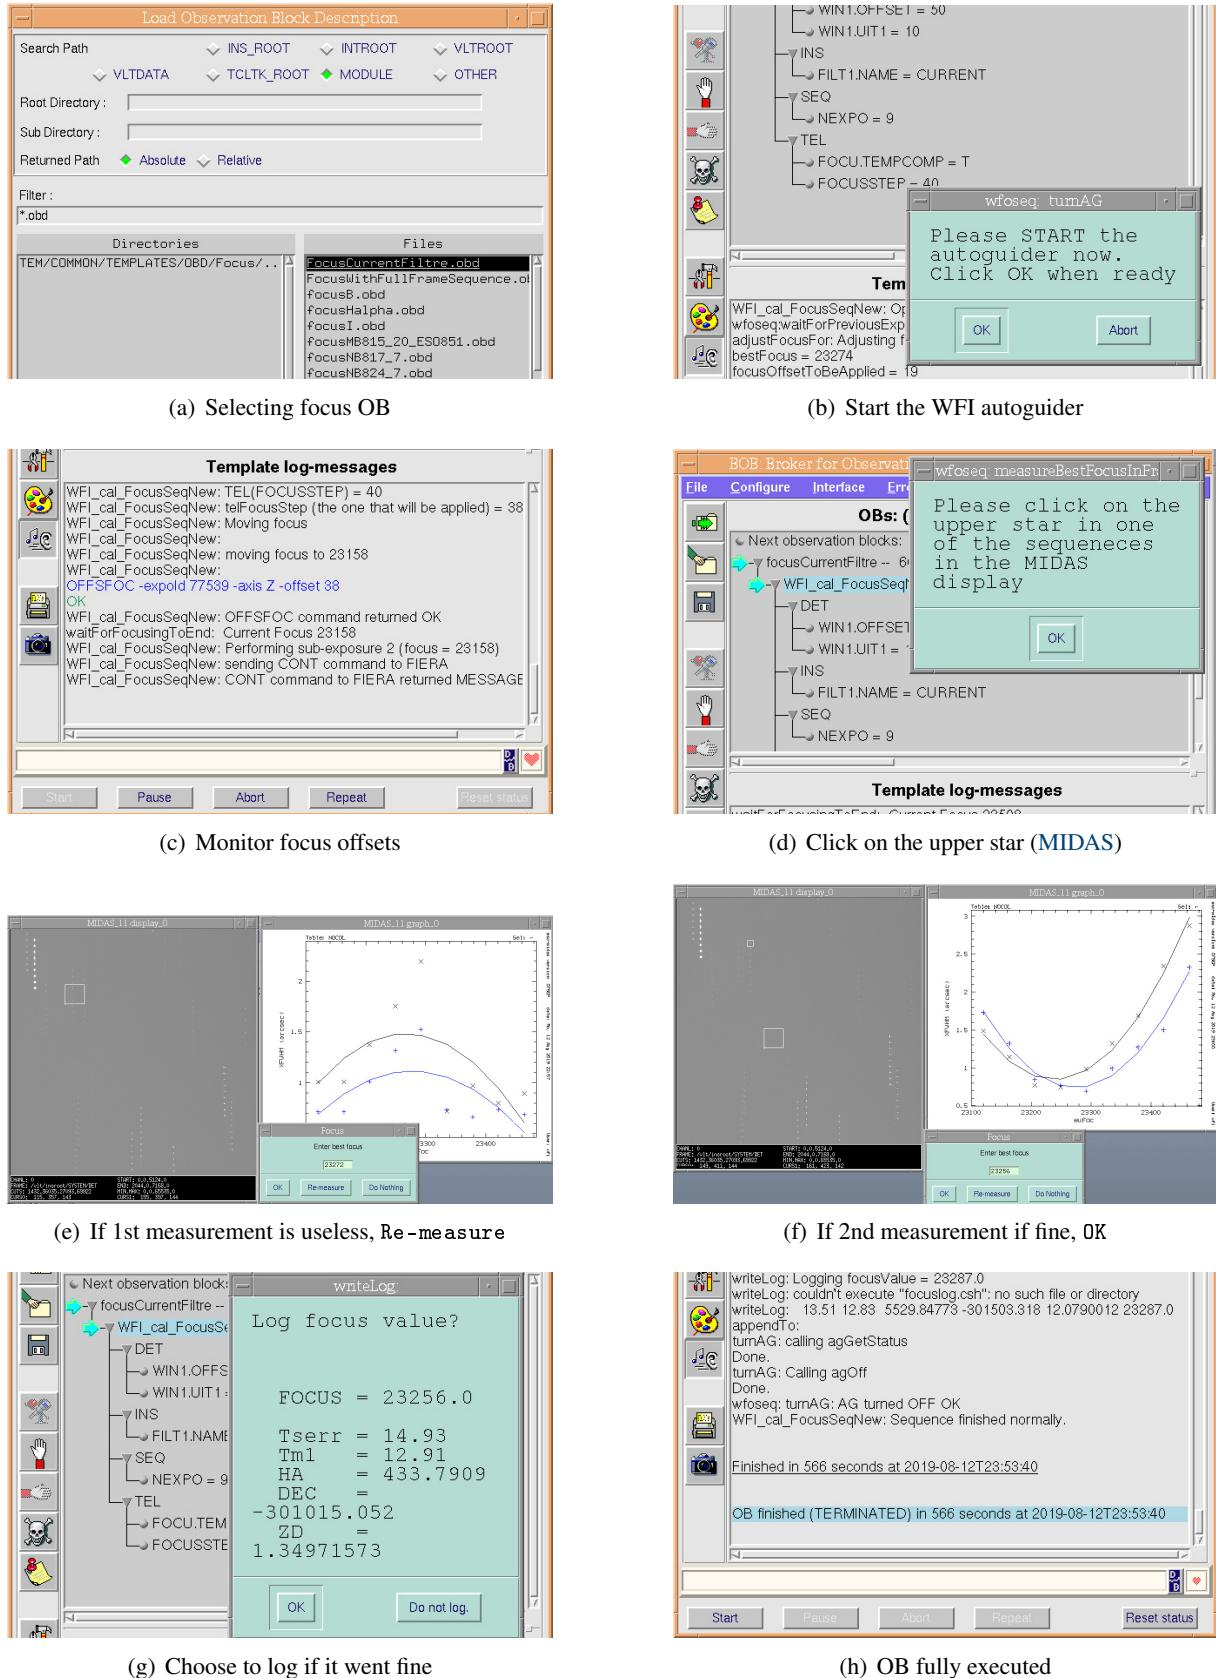

Figure 5.1: Main steps in the focus sequence of WFI.
- B. Start the focus OB (Fig. 5.1(a), p. 53) and perform AG acquisition if required (Fig. 5.1(b), p. 53)
- C. Monitor the progress of the focus sequence on bob and skycat (Fig. 5.1(c), p. 53, 6 min).